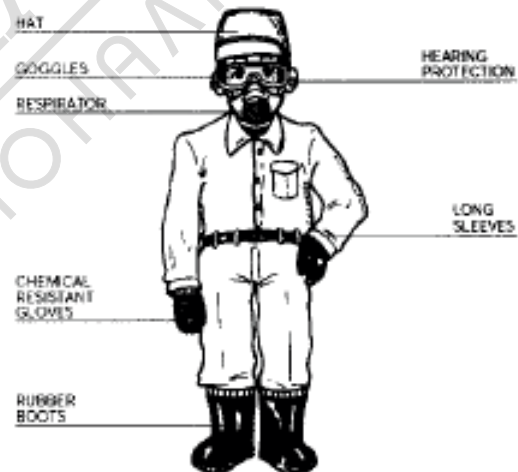

Fig 13
(1) Read this manual carefully. Be sure you understand how to operate this machine properly before you use it.
(2) Protective clothing (Fig.13)
(3) Following personnel can not use the machine.